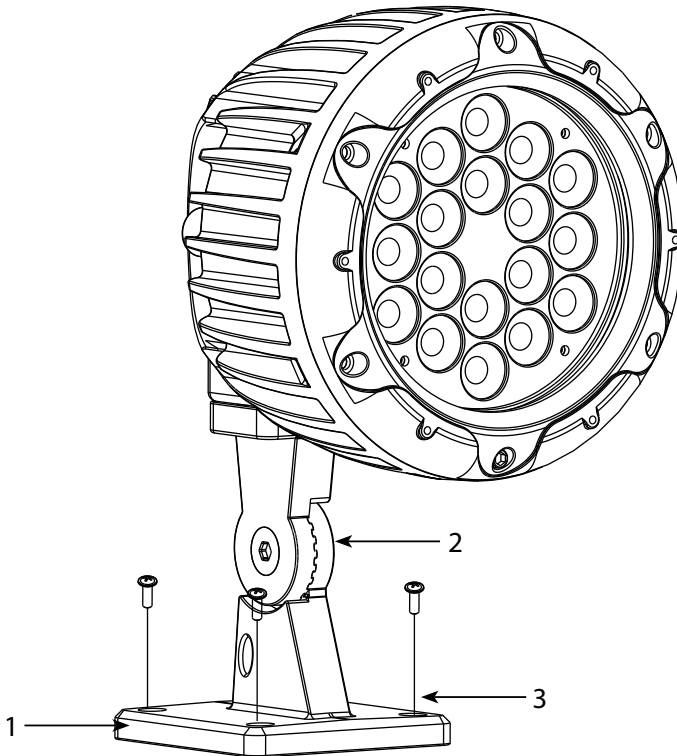

Fig.2
ARCSPOT18RGB may be set up on a solid and even surface (fig.2). The unit can also be mounted with to a support bracket (1), the unit can be on different surfaces such as walls and ceilings. The mounting place must be of sufficient stability and be able to support a weight of 10 times of the unit's weight.
- Install the projector at a suitable location by means of the mounting bracket (1). Secure the bracket through the screws into the 4 holes (3).
- Adjust the projector and use the knob (2) to slightly release or tighten the locking mechanism of the bracket if is necessary.